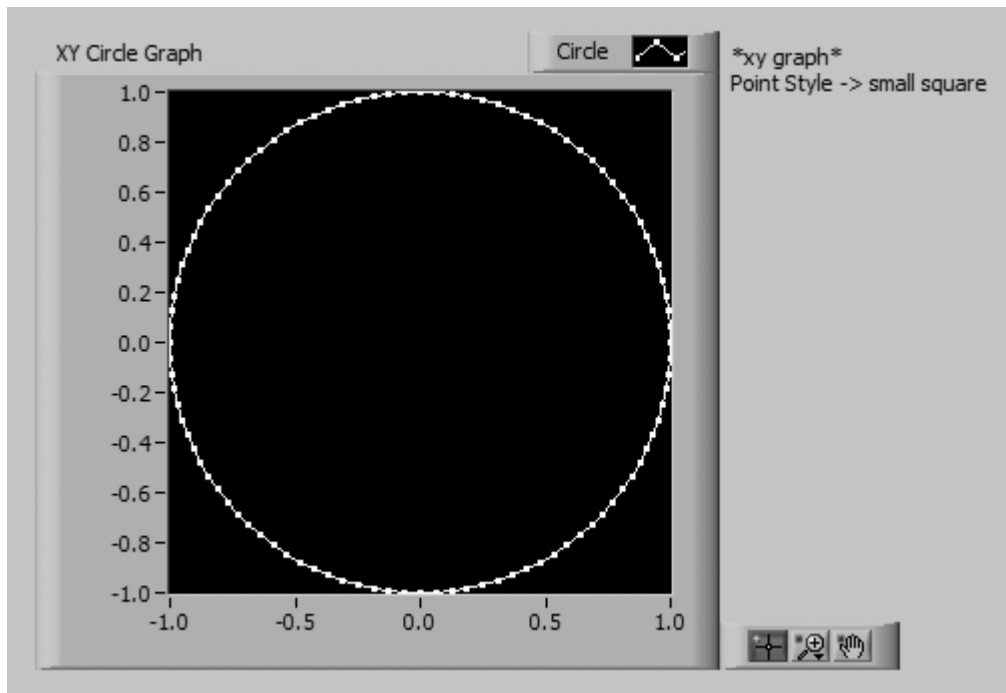

Figure 8.40
1. Open a new front panel. You will recreate the panel shown in Figure 8.40.